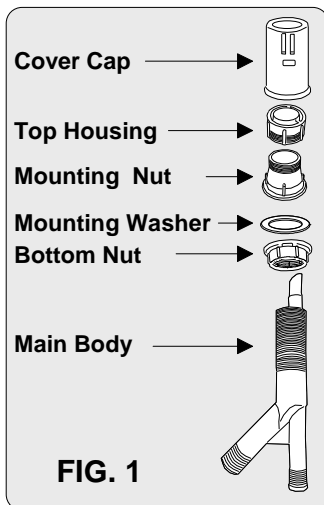

FIG. 1
2. Unscrew the top housing from the AG200-006 body. Next, unscrew and remove the mounting nut and washer. Turn the bottom nut counterclockwise further down the air gap's body. Leave sufficient length for the air gap to protrude up through the mounting hole. (See Fig. 1)